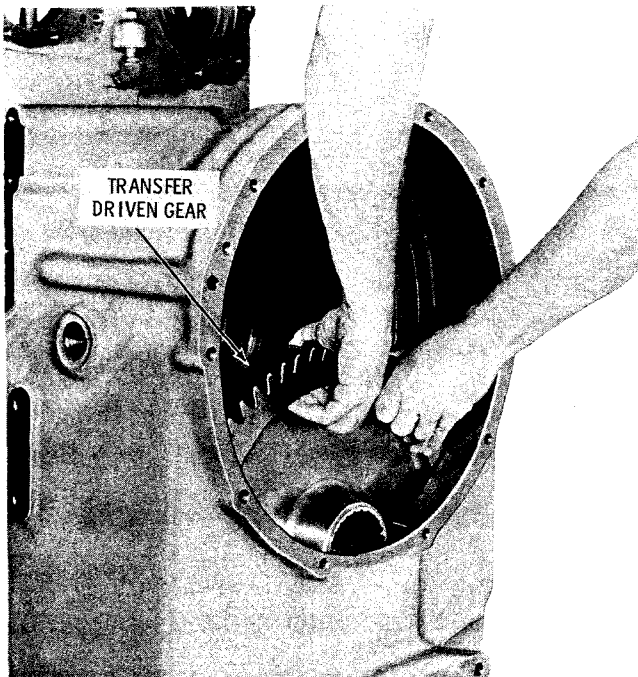

Fig. 5-37. Removing transfer driven gear
(4) Remove the transfer driven gear (fig. 5-37). Remove ball bearing 24 (A, foldout 7), oil seal 27 and dust shield 28 from the rear of the housing.
(5) Remove cap 34 from the bore in the front of the housing only if necessary.